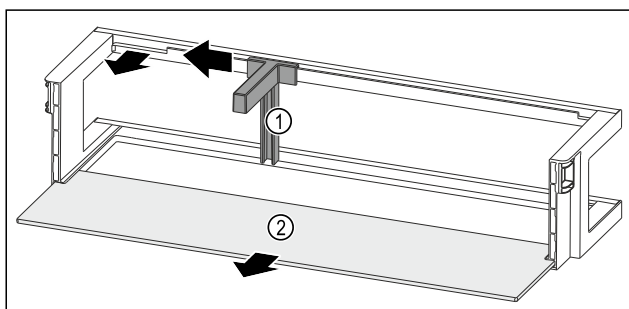

Fig. 147 Door rack with bottle holder and shelf
- Slide the bottle holder Fig. 147 (1) to the side as far as the recess.
- Remove the bottle holder Fig. 147 (1).
- Remove the shelf Fig. 147 (2).